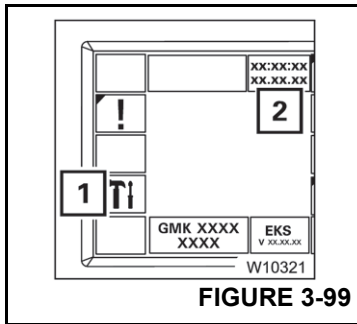

FIGURE 3-99
In the Main menu, press the F4 button (1) (Figure 3-99) once, the Settings submenu opens.